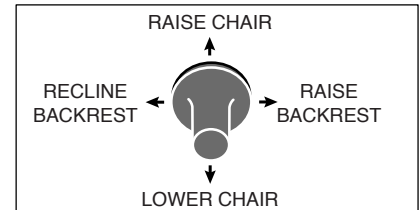

Fig. 5-3 Chair Manual Control
1) Chair Manual Controls (See Fig. 5-3.)